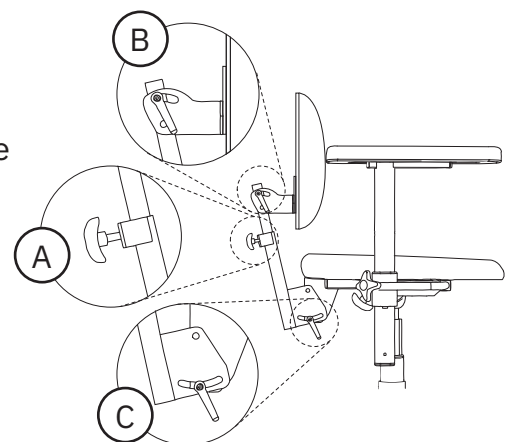

Figure 5.8. Standard backrest mechanism.
Standard can be adjusted in height (A), angle of back rest (B) and angle of back rest mechanism (C), see Figure 5.8. The back recliner can be adjusted in the range of 15° forward to 30° backwards.